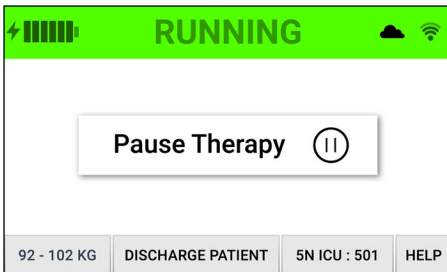

Figure 15. Running screen
1. Therapy can be stopped by pressing "Pause Therapy" on the running screen. (Fig. 15)